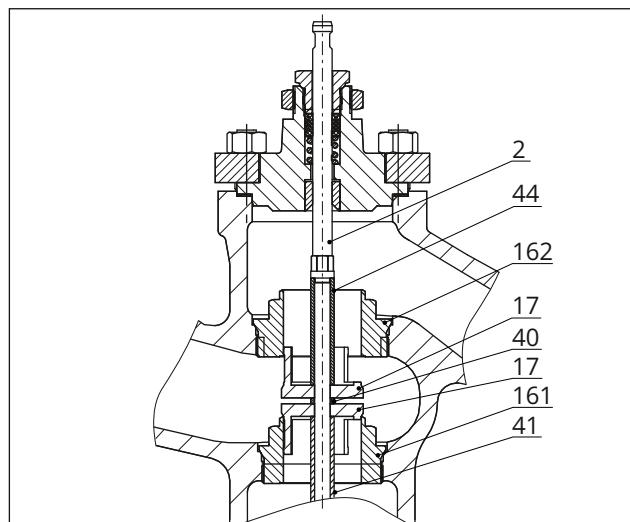

Fig. 24: Valve in DN 32 and 50/NPS 3 and 4 · Mixing valve
15. Insert the bottom plug (17) into the bottom seat (161).
16. Screw in the top seat (162). Observe tightening torques.
17. Carefully guide the plug stem (2) with top spacer (44) from above through the top plug (17), middle spacer (40) and bottom plug (17).
18. Slide the bottom spacer (41) and retaining washer and shim (122, 123) from below onto the plug stem (2).
19. Apply a suitable lubricant to the hex nut (121) and the threaded end of the plug stem (2).
20. Thread and tighten the hex nut (121) onto the plug stem (2). Observe tightening torques.
21. Apply a suitable lubricant to all packing parts and the plug stem (2).
22. Carefully place the valve bonnet (27) and flange (34) over the plug stem (2) and the studs (51) onto the body (20). Make sure that the gasket (46) is properly seated in the body.
23. Carefully slide the packing parts over the plug stem into the packing chamber using a suitable tool. Observe the proper sequence (see Fig. 24).
24. Fasten down the flange (34) with the body nuts (52). Tighten the body nuts gradually in a criss-cross pattern. Observe tightening torques.
25. Apply a suitable lubricant to the thread of the threaded bushing (131). Screw in the threaded bushing and tighten it. Observe tightening torques.